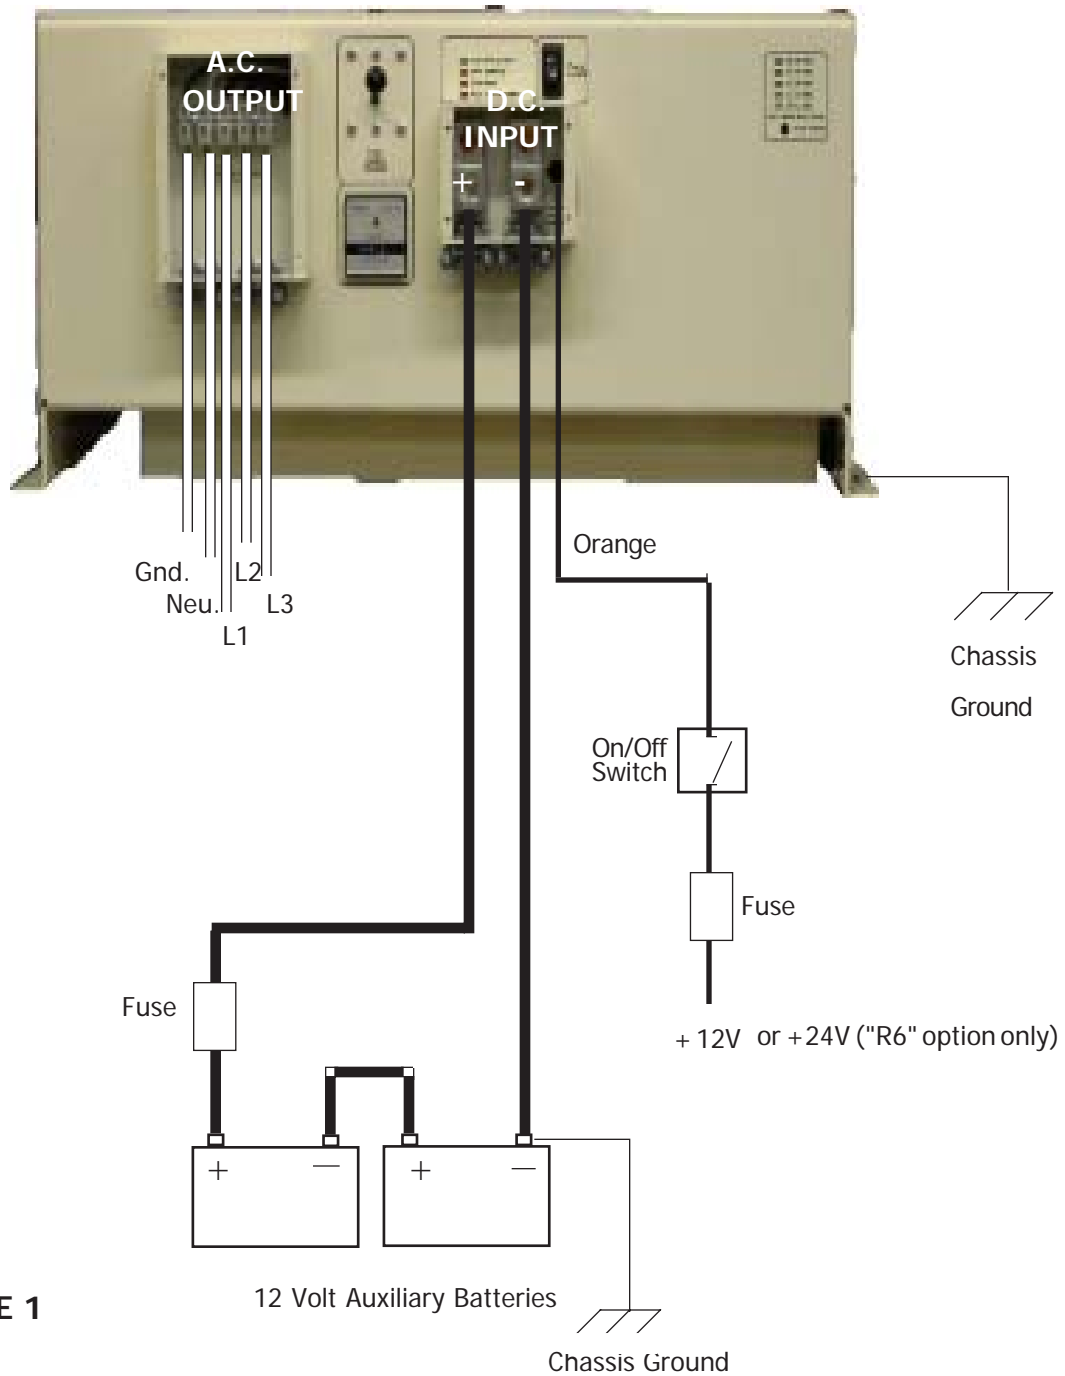

FIGURE 1
3.04 Chassis or Earth Bonding Lug - FIG. 1
3.05 DC Wiring - FIG. 1
3.06 Remote ON/OFF Switch - FIG. 1